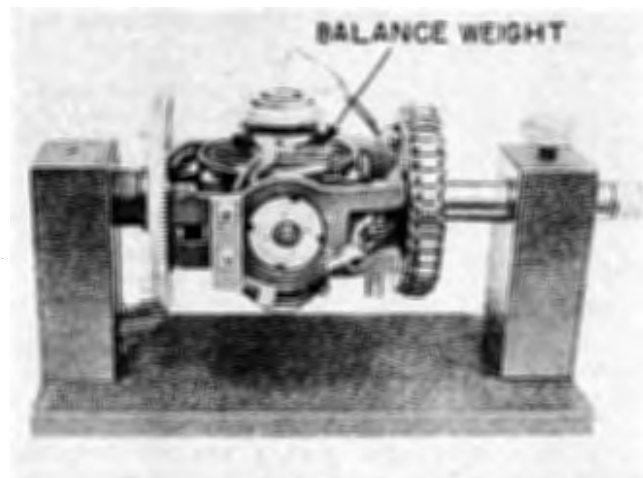

Figure 47B
3. After the gyro has been balanced horizontally, rest the fixture on the bench as shown in figure 47B. Set the gyro vertical and note the direction in which it departs from its setting.
4. Adjust the sliding balance weights (figure 47B) until the gyro will remain exactly vertical.